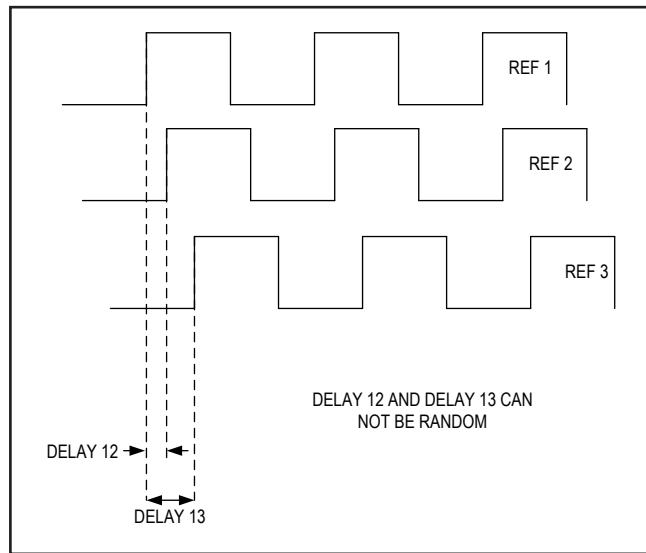

Figure 6. Reference Signal Relative Delay
4. The relative delay of reference signal at each MAX2871's reference pin can **NOT** be random. Refer Figure 6.